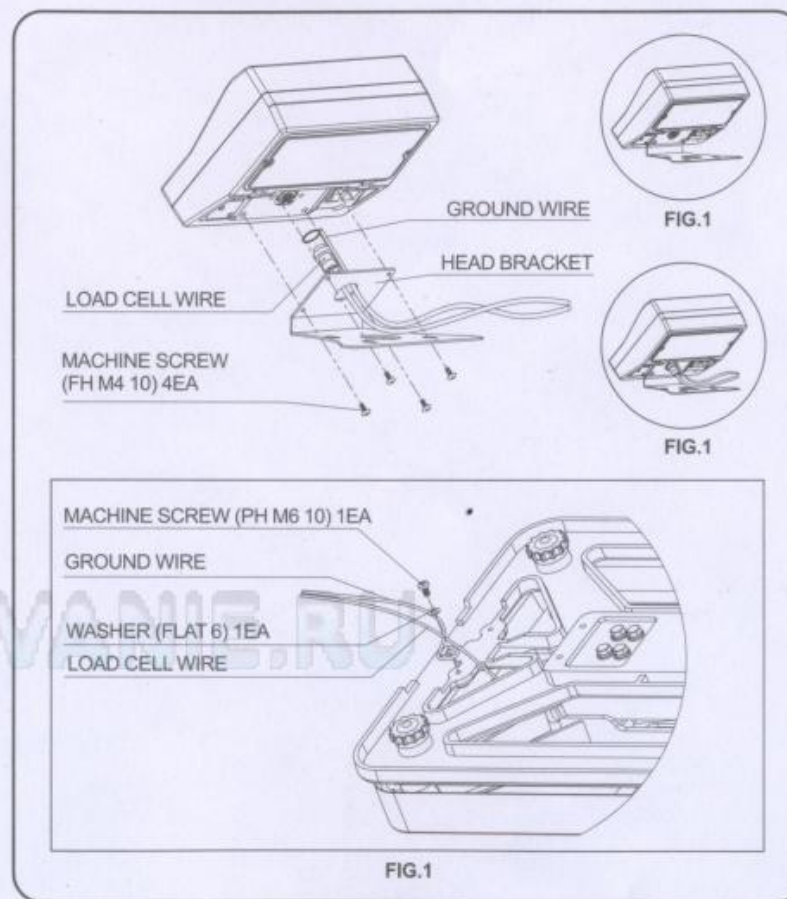

FIG.1
3. Pull down the wire out of post pipe and insert the post pipe to the post bracket. (Refer to fig. 1)
4. Fasten the post pipe with two bolts. (Refer to fig. 1)
1. Attach head bracket to the display and fasten it with screws provided as shown in Figure. 1.